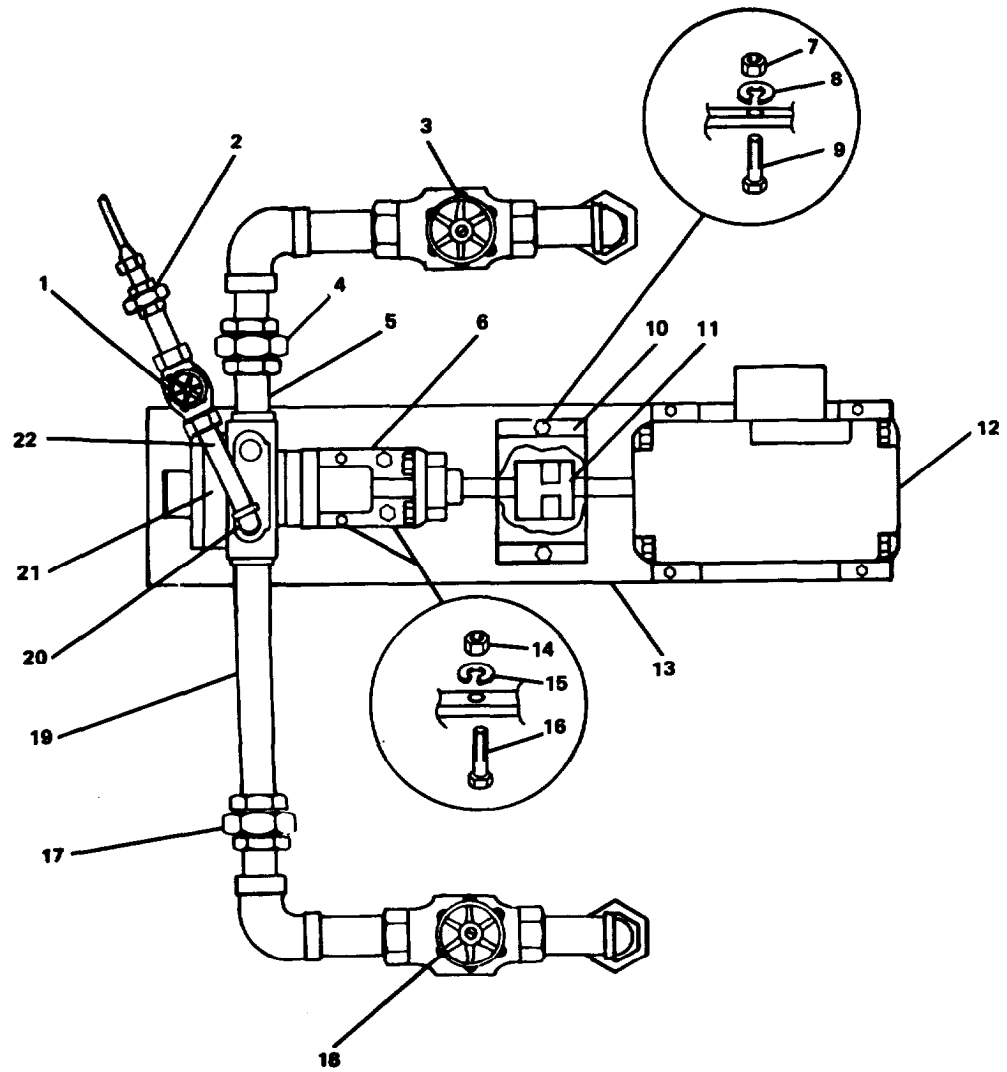

FIGURE 2-89. Rotary Pump (Dirty Lubricate Oil)
- l. Secure coupling guard with two hexhead capscrews (9), lockwashers (8) and hex plain nuts (7).
- m. Secure motor (12) with four hexhead capscrews, lockwashers and hex plain nuts.
- n. Install pump relief elbow (20) on pump. Position pipe wrench on elbow for clockwise rotation to secure nipple (22) and valve (1) section pump.
- o. Connect pump relief piping at connector (2).
- p. Connect suction piping at union (4) on inlet side of pump.
- q. Connect discharge piping at union (17) on outlet side of pump.
- r. Open pump relief valve (1).
- s. Open pump suction (3) and discharge (18) valves.
- t. Remove tags and connect electrical leads at junction box on motor (12).
**2-108. Replace/Repair Rotary Pump (Dirty Lubricate Oil). (FIGURE 2-89)**